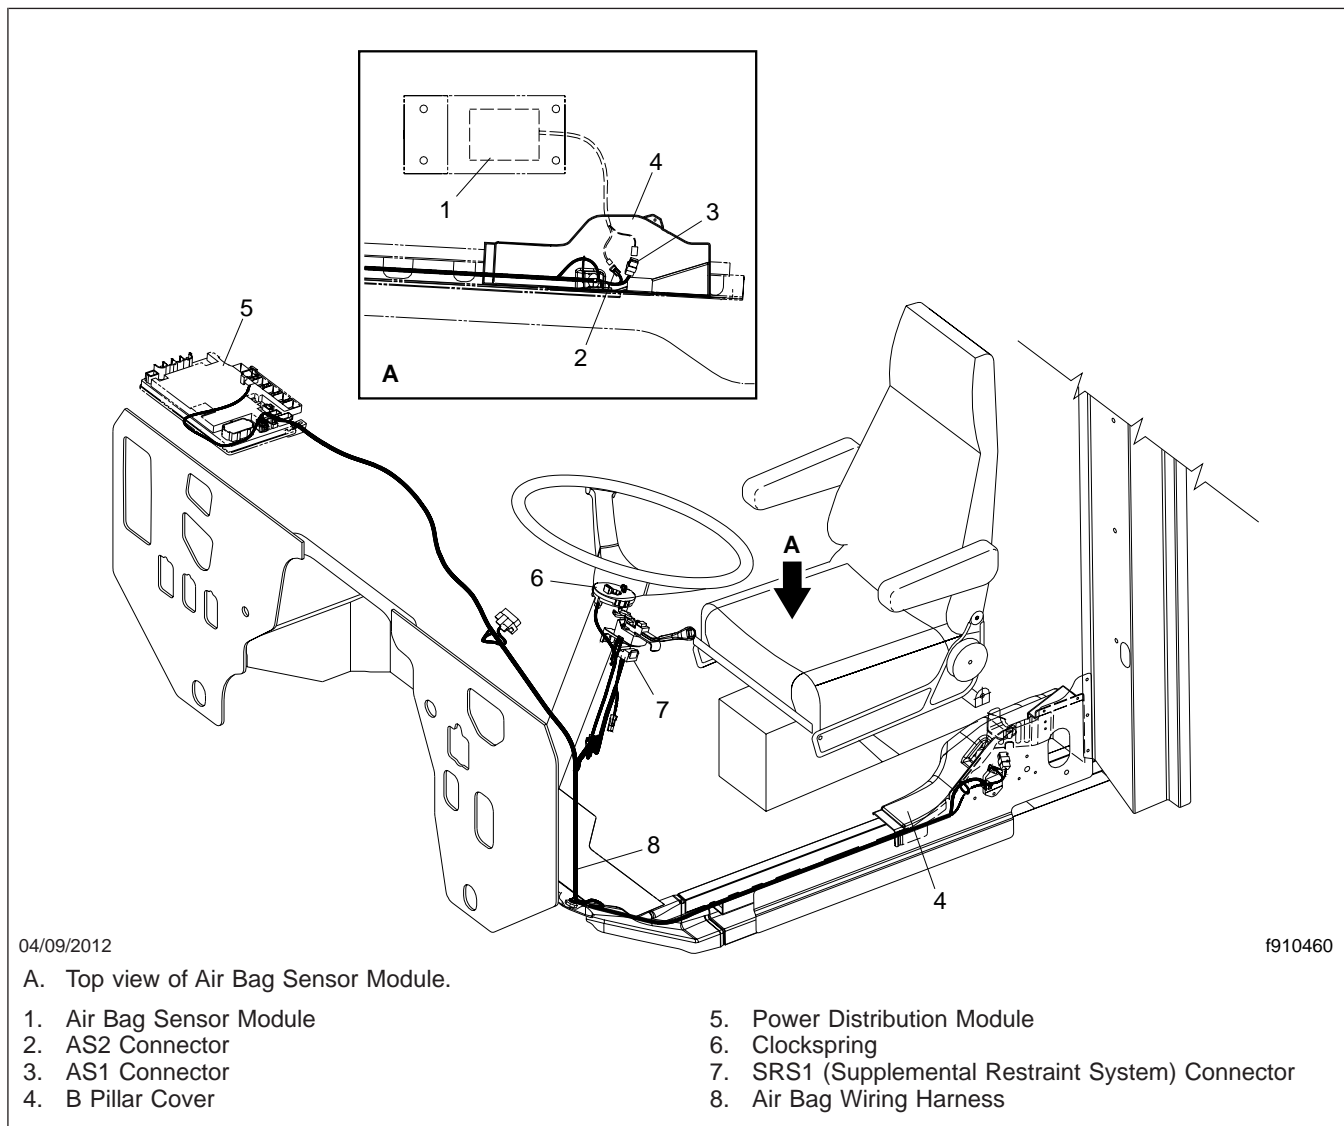

Fig. 2, Air Bag Harness Routing on Air Bag Only Systems Installed From May 12, 2000
2000 has an air bag sensor module located under the driver's seat. See Fig. 2.
3. Disconnect the AS2 connector. See Fig. 2.
15. Reconnect the AS2 connector. See Fig. 2.